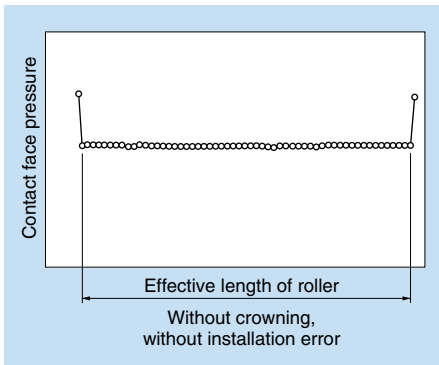
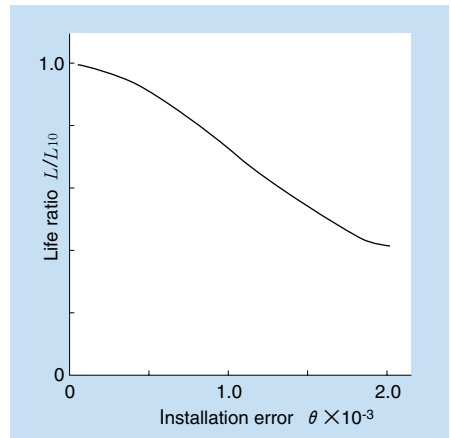

Fig. 4.1
Fig. 4.4 Relationship between installation error and bearing life
It is well known that bearing life can be dramatically reduced due to stress concentration at the roller ends (edge load) caused by installation error. "Roller crowning" is employed as a countermeasure to this problem. However, this may reduce the effective contact length of the rollers and reduce the bearing life unless a proper design is made. Installation error and loading conditions may require calculation of the proper crowning value. **Figs. 4.1 to 4.3** show
**Figs. 4.1 to 4.3** (examples of analyses of contact face pressure) show that the rollers without crowning provide higher edge face pressure, but the rollers with crowning are limited to lower edge face pressure in the range of constant installation error. **Fig. 4.4** shows the relationship (example of computer analysis) between installation error and bearing life. The figure shows the influence of installation errors on the bearing life.